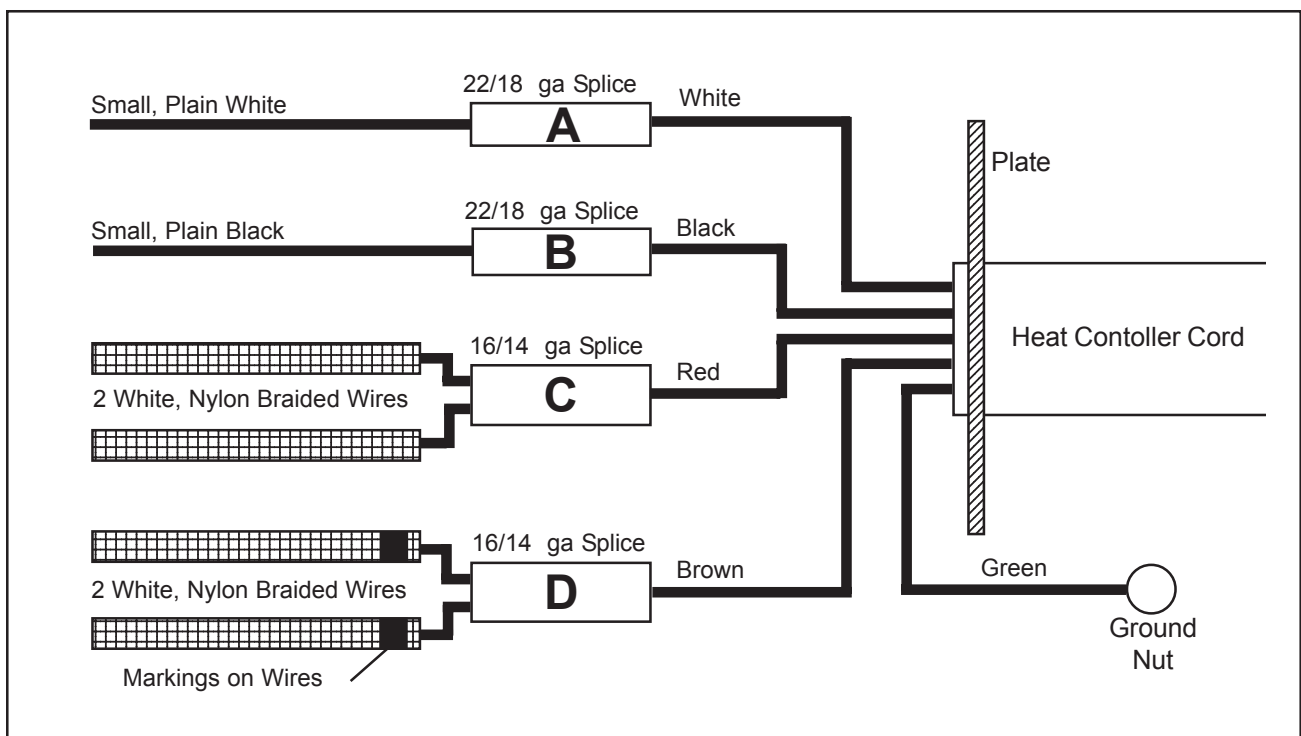

Figure 25. Wiring Diagram - Heat Controller Cord to Table
5. Locate the brown wire coming out of the heat controller cord (Figure 25). Trace this wire on past the butt-splice to the two white, nylon braided wires leaving the splice (**D**). With a felt-tip pen, prominently mark both these wires so they can be reconnected correctly during installation.
4. Connect the two *marked* braided wires to the brown wire from the heat controller with a 16/14 ga butt-splice (**D** in Figure 25). Crimp the wires firmly in place with a crimping tool.